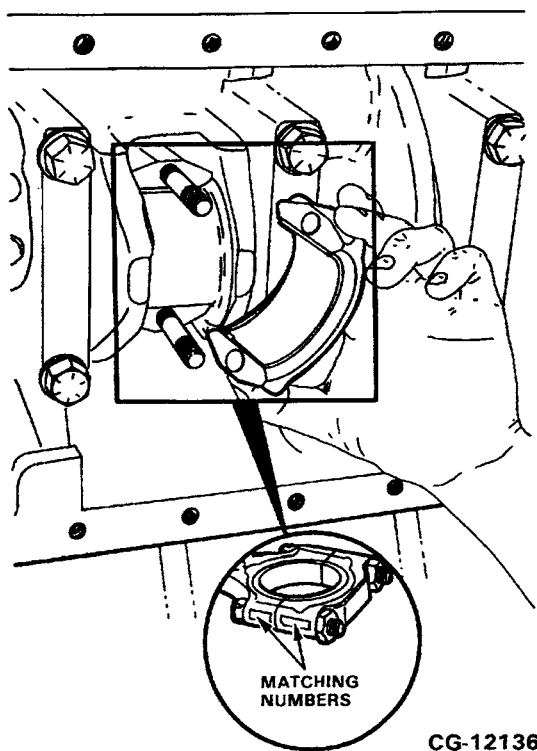

Figure 6.59. Install Connecting Rod Cap and Bearing
1. With the bearing inserts lubricated, install the connecting rod cap so the numbers on the cap and rod match. Refer to Figure 6.59.